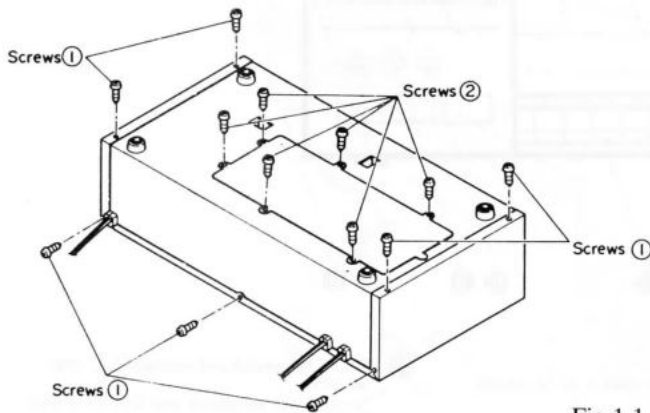

Fig.1-1
- 1) Remove the 7 screws ① as shown in Fig.1-1 and remove the top cover by sliding it off to the rear.
- 2) The bottom cover can be removed by removing the 6 screws ②.